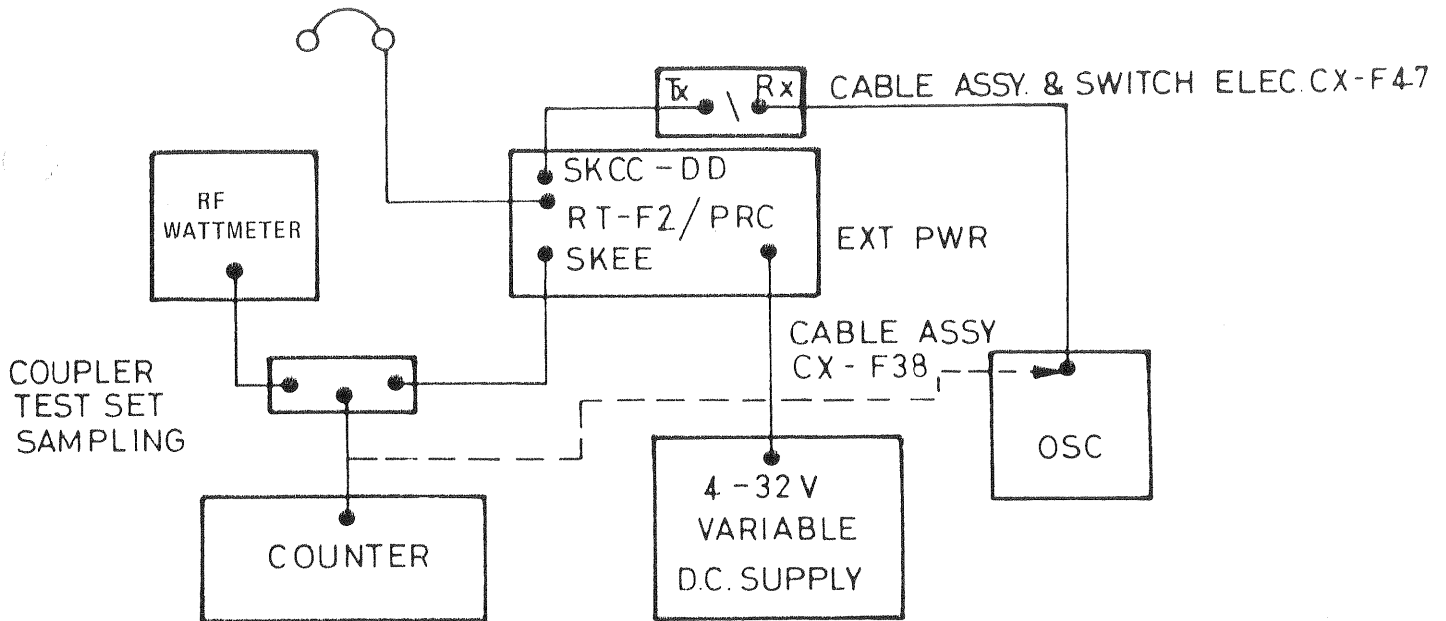

FIG 5 — TRANSMITTER FREQUENCY ACCURACY — TEST SET-UP
- a. Connect the equipment as shown in Fig 5, with the Switch Elec CX-F47 in the RX position.